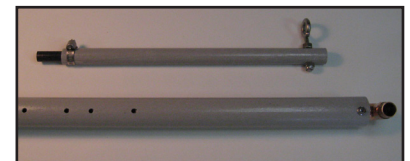

Fig. 48
- Select the remaining Boom End Sub-Assembly and temporarily remove the tube and rod from the copper elbow as shown in Fig. 48.